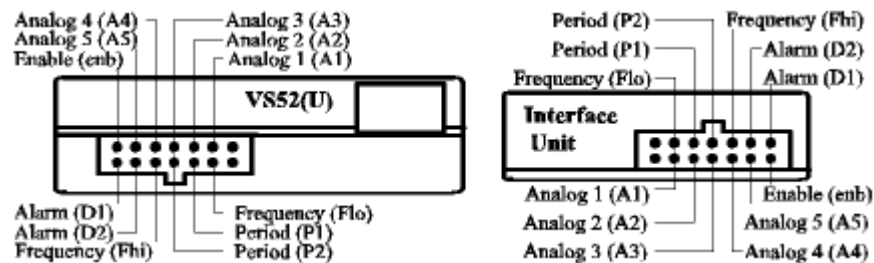

Figure 4. Monitor Connections
- Figure 4 – Monitor Connection Pinout
Monitor Connector: This connection accepts the conditioned and scaled data from the Interface Units. The ribbon cable (14-pin) connects this to the Interface Unit. The pinout for this connector is shown in Figure 4.